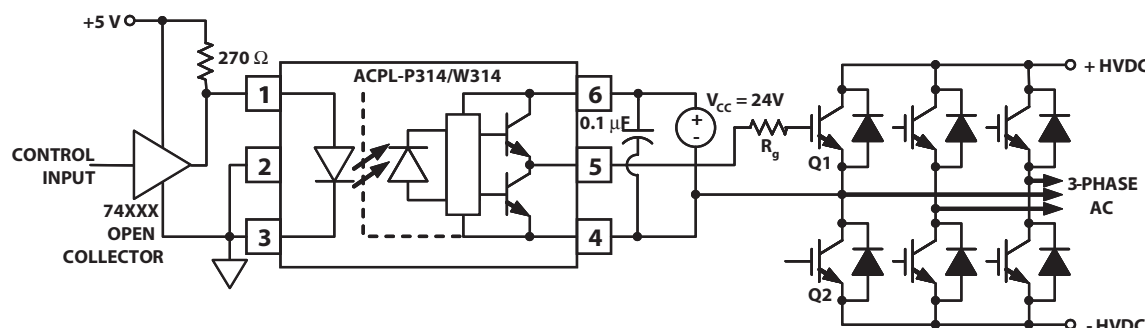
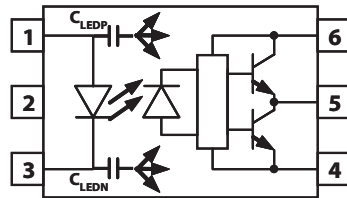
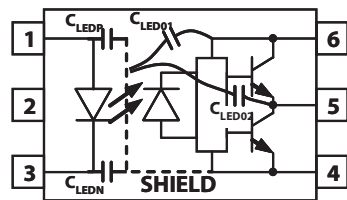
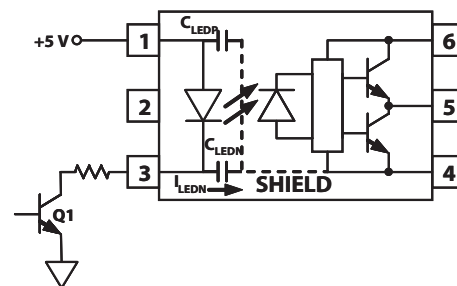

Figure 19. Recommended LED Drive and Application Circuit for ACPL-P314/W314
Figure 21. Optocoupler Input to Output Capacitance Model for Unshielded Optocouplers.
Figure 22. Optocoupler Input to Output Capacitance Model for Shielded Optocouplers.
Figure 24. Not Recommended Open Collector Drive Circuit.
To keep the IGBT firmly off, the ACPL-P314/W314 has a very low maximum  $V_{OL}$  specification of 1.0 V. Minimizing  $R_g$  and the lead inductance from the ACPL-P314/W314 to the IGBT gate and emitter (possibly by mounting the ACPL-P314/W314 on a small PC board directly above the IGBT) can eliminate the need for negative IGBT gate drive in many applications as shown in Figure 19. Care should be taken with such a PC board design to avoid routing the IGBT collector or emitter traces close to the ACPL-P314/W314 input as this can result in unwanted coupling of transient signals into the input of ACPL-P314/W314 and degrade performance. (If the IGBT drain must be routed near the ACPL-P314/W314 input, then the LED should be reverse biased when in the off state, to prevent the transient signals coupled from the IGBT drain from turning on the ACPL-P314/W314.
Step 1: Calculate  $R_g$  minimum from the  $I_{OL}$  peak specification. The IGBT and  $R_g$  in Figure 19 can be analyzed as a simple RC circuit with a voltage supplied by the ACPL-P314/W314.
where  $K_{ICC} \cdot Q_g \cdot f$  is the increase in  $I_{CC}$  due to switching and  $K_{ICC}$  is a constant of 0.001 mA/(nC·kHz). For the circuit in Figure 19 with  $I_F$  (worst case) = 10 mA,  $R_g = 32 \Omega$ , Max Duty Cycle = 80%,  $Q_g = 100$  nC,  $f = 20$  kHz and  $T_{AMAX} = 85^\circ\text{C}$ :
Without a detector shield, the dominant cause of optocoupler CMR failure is capacitive coupling from the input side of the optocoupler, through the package, to the detector IC as shown in Figure 21. The ACPL-P314/W314 improves CMR performance by using a detector IC with an optically transparent Faraday shield, which diverts the capacitively coupled current away from the sensitive IC circuitry. However, this shield does not eliminate the capacitive coupling between the LED and optocoupler pins 5-8 as shown in Figure 22. This capacitive coupling causes perturbations in the LED current during common mode transients and becomes the major source of CMR failures for a shielded optocoupler. The main design objective of a high CMR LED drive circuit becomes keeping the LED in the proper state (on or off) during common mode transients. For example, the recommended application circuit (Figure 19), can achieve 10 kV/ $\mu$ s CMR while minimizing component complexity.
The open collector drive circuit, shown in Figure 24, can not keep the LED off during a  $+dV_{CM}/dt$  transient, since all the current flowing through  $C_{LEDN}$  must be supplied by the LED, and it is not recommended for applications requiring ultra high CMR1 performance. The alternative drive circuit which like the recommended application circuit (Figure 19), does achieve ultra high CMR performance by shunting the LED in the off state.